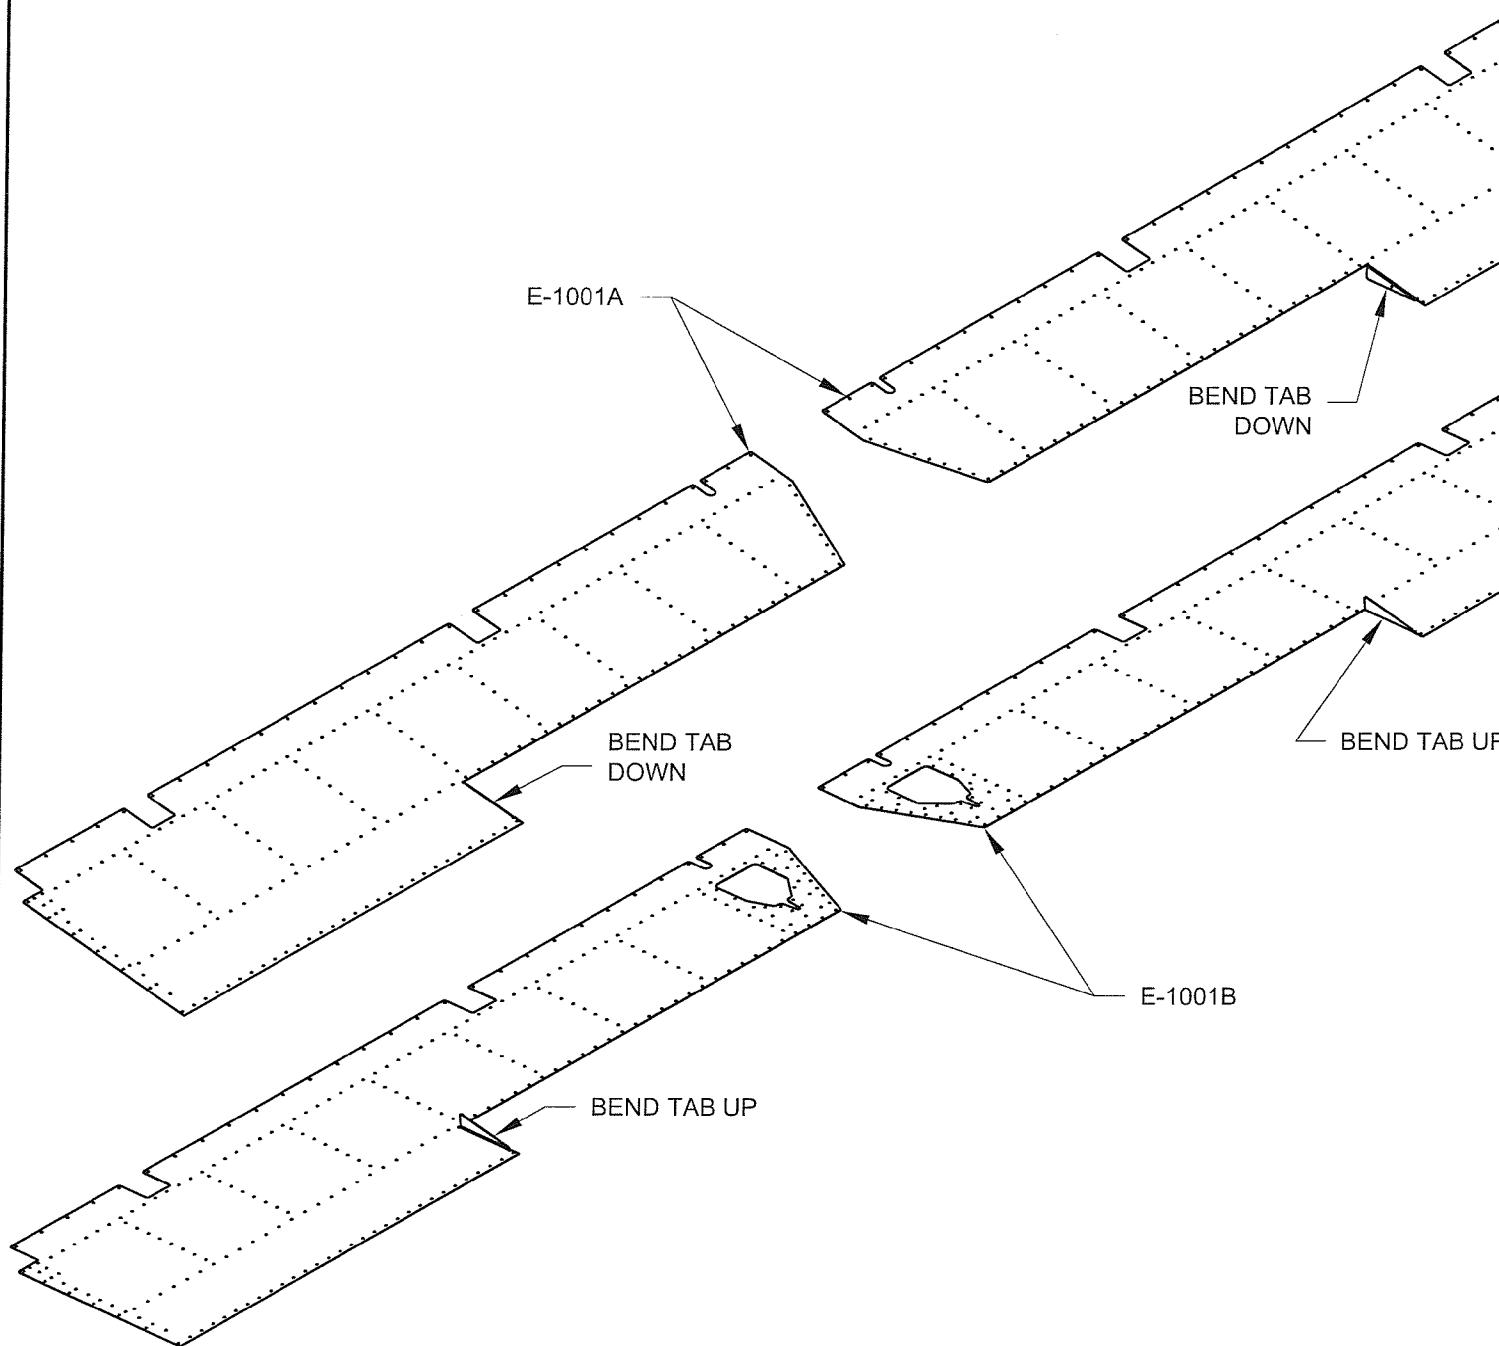

**FIGURE 4: SEPARATING THE E-1022 SHEAR CLIPS**
Step 7: Separate the four E-1022 Shear Clips by removing the material shown in Figure 4.